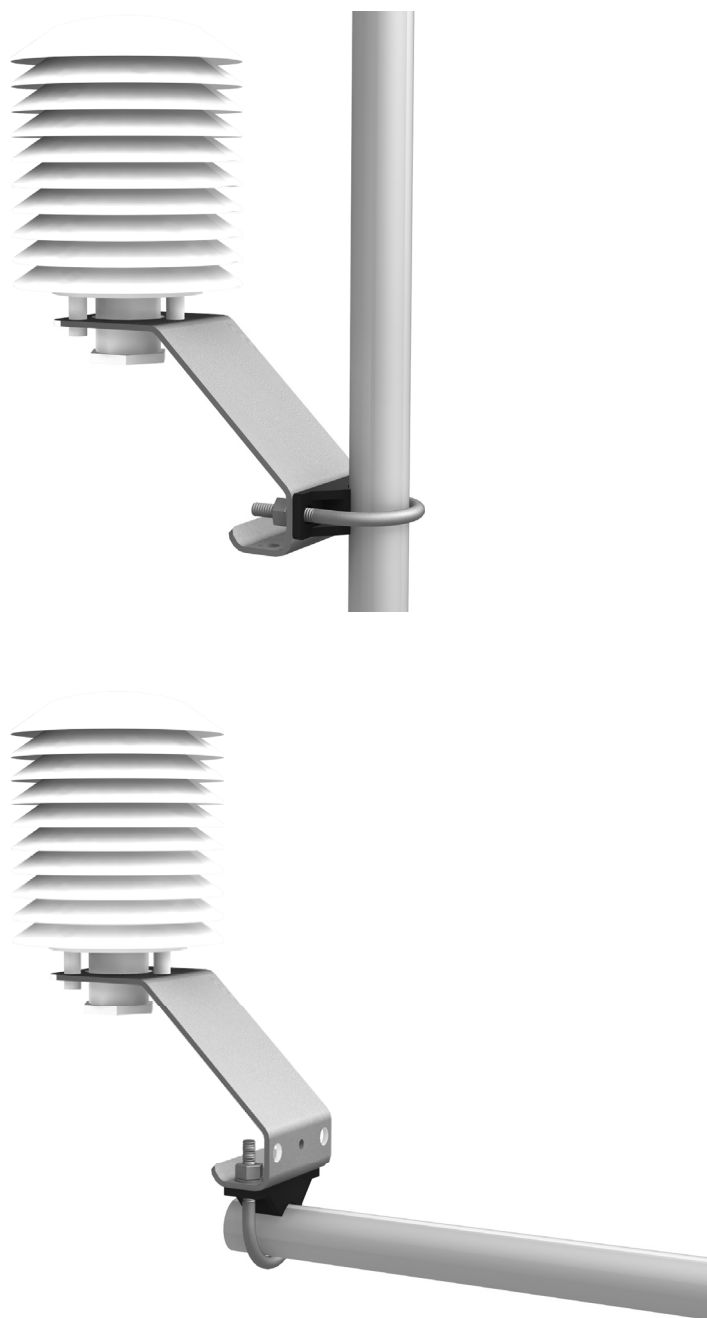

FIGURE 6-7. R.M. Young Gill Radiation Shield
R.M. Young Gill Radiation Shields are used to house and attach temperature and relative humidity sensors to the tripod mast (1.0-in. to 2.1-in. OD) or crossarm as shown in FIGURE 6-7. Radiation shields ship with the U-bolt configured for attachment to a vertical pipe. To attach the radiation shield to a horizontal pipe, the U-bolt and plastic V-block must be moved to the other set of holes.